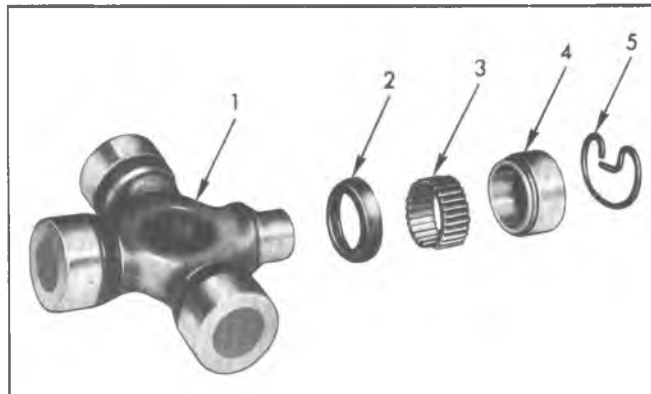

Fig. 25—Universal Joint Repair Kit
6. If not installing a "U" joint service kit, as shown in figure 25, place dust seals on trunnions with the cavity of seal toward end of trunnion. Press seal onto trunnion exercising caution during installation to prevent seal distortion and to assure proper seating of seal on trunnion.